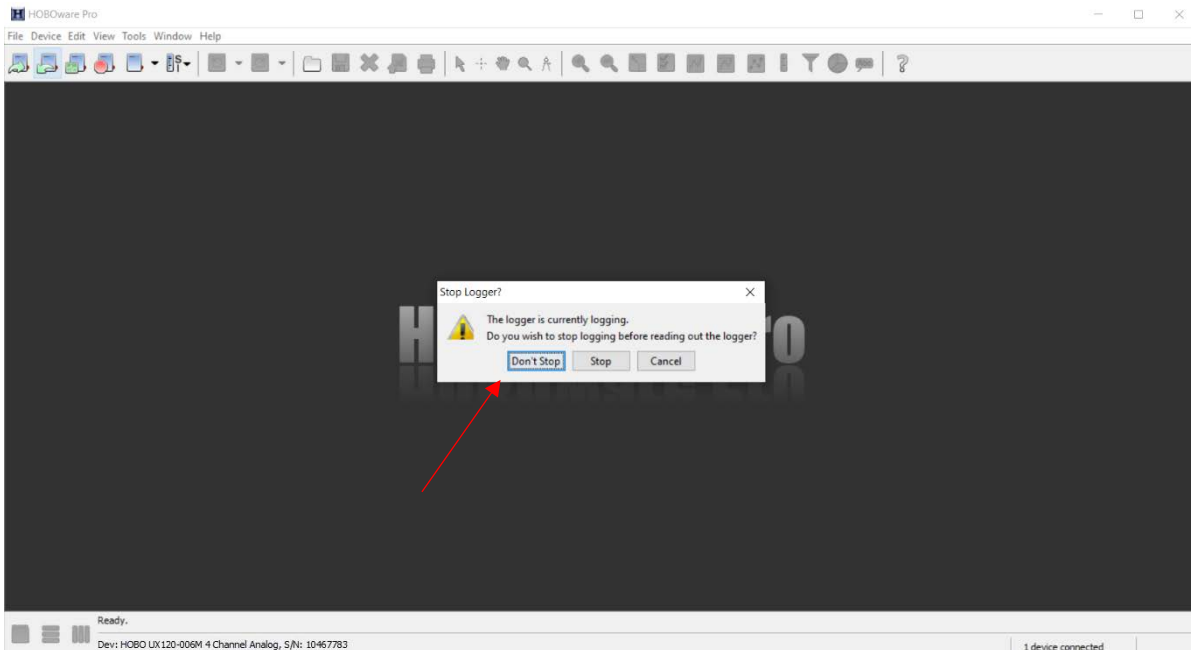

Figure A.12.13: The “Stop Logger?” pop-up window.
5. The “Stop Logger” pop-up will appear (Figure A.12.13) asking if you want to stop logging. Click “Don’t Stop”.